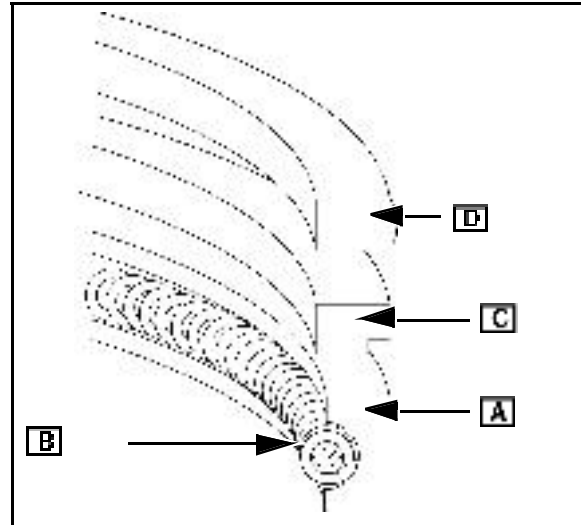

Fig. 16
NOTE: Install gap of oil ring expander (B) 180 degrees from gap in oil control ring ([A] Fig. 16).
1. Install the oil control ring (A) and expander (B).
2. Install the center ring (C).
3. Install the top ring ([D] Fig. 16).